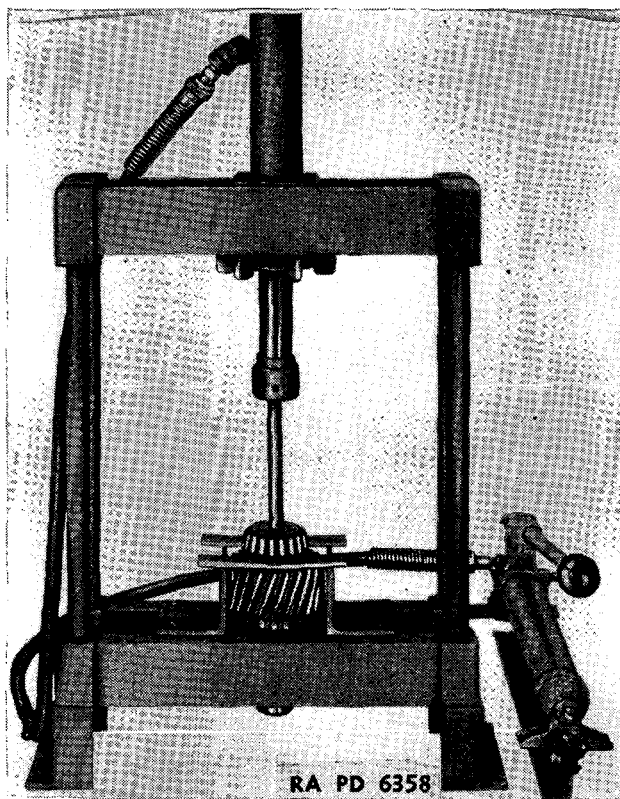

FIGURE 129.—Pressing rear bearing off intermediate shaft.
(1) Remove intermediate shaft from case. Proceed as outlined in steps in *f*(1) through (11) above.
(2) Remove intermediate shaft rear bearing cone—press. Set up in press and remove bearing cone and rollers (A214965) (fig. 129).